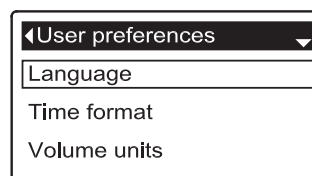

FIG. 108
3. Press the SELECT (O) button to display the User preferences menu (See Figure 108).
7. Press the SELECT (O) button. The display will go back to the User preferences menu (Figure 108).